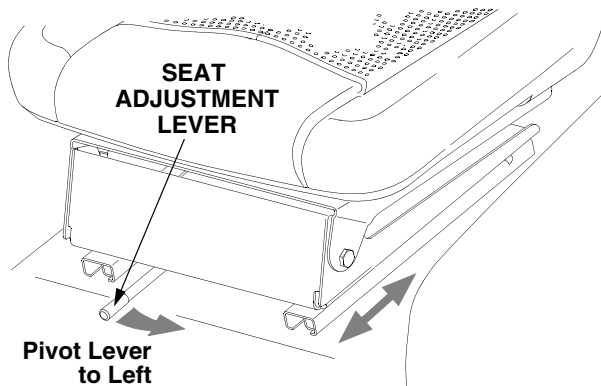

Figure 24
- After repositioning the seat, release the lever to lock the seat in position. Slide the seat either slightly forward or rearward to assure it is locked, or until engagement of the lock is felt. See Figure 24.